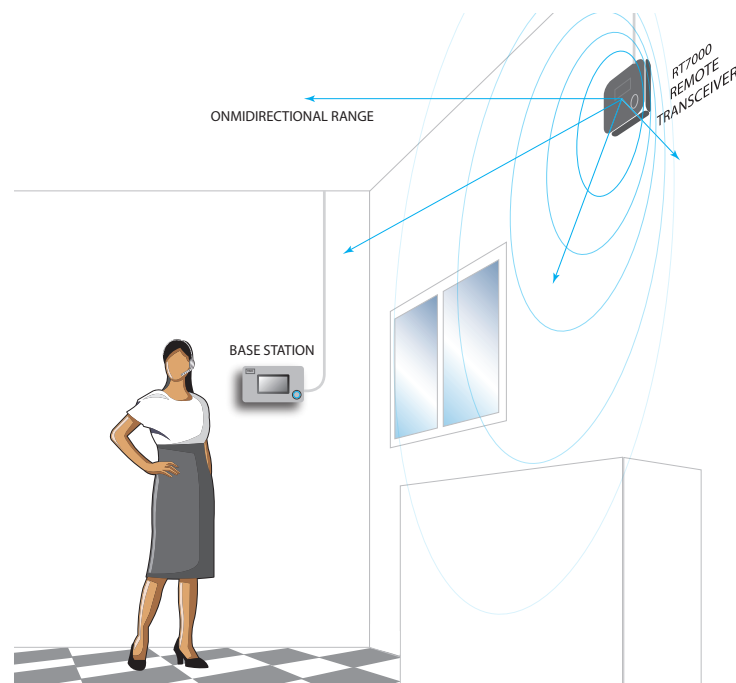

Fig. 1.1
- The base station mounting height should be 5 feet (1.52 m), see Fig. 1.1.